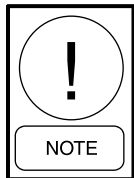

FIG. 5-62 – WIPE OFF EXCESS SEALANT
22. Using either a dry towel or one moistened in mineral spirits; wipe the excess sealant from the gasket and anti-compression leg area (*see Fig. 5-62*).